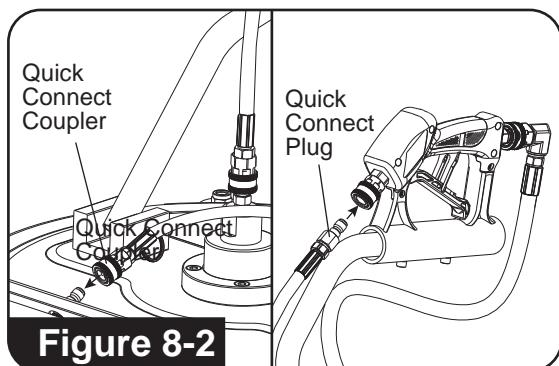

**Figure 7**
7. Attach the quick connect coupler on the other end of the hose to the inlet plug. **(See Figure 7)**